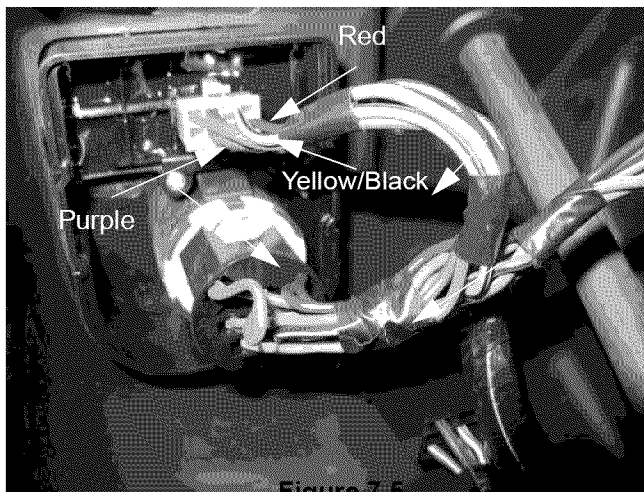

Figure 7.5
1. Disconnect the molded 8-pin plug from the RMC module. See Figure 7.5.